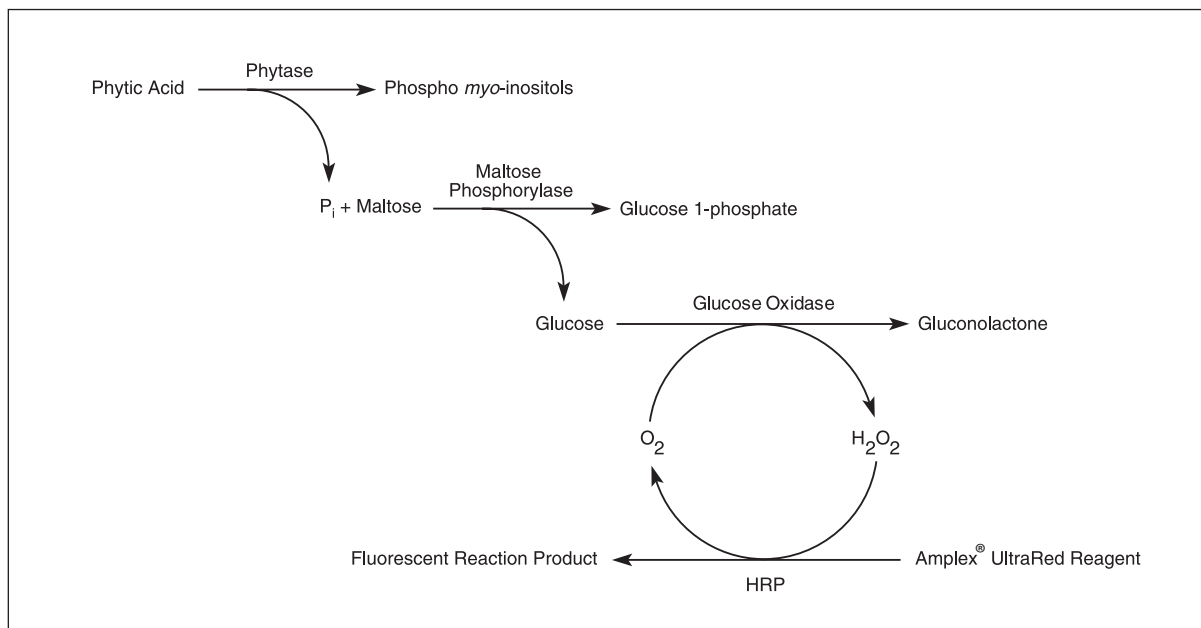
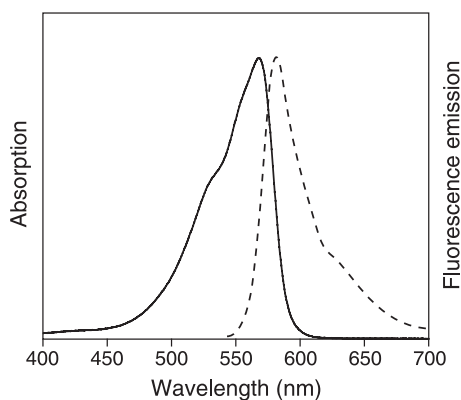

Figure 1. Principle of EnzChek® phytase assay.
Figure 2. Normalized absorption and fluorescence emission spectra for the Amplex® UltraRed peroxidation product.
The EnzChek® Ultra Phytase Assay Kit utilizes a series of linked enzymatic reactions for the detection of phytase activity (Figure 1). In the initial step, phytase catalyzes the release of inorganic phosphate from phytic acid; in the presence of P_i , maltose phosphorylase converts maltose to glucose 1-phosphate and glucose. Glucose oxidase then converts the glucose to gluconolactone and H_2O_2 . Finally, with horseradish peroxidase (HRP) as a catalyst, the H_2O_2 reacts with the Amplex® UltraRed reagent to generate a fluorescent product, which has absorption and fluorescent emission maxima of ~568 nm and 581 nm, respectively (Figure 2). The resulting increase in fluorescence is proportional to the amount of P_i in the sample. This relative measure of phytase activity can be used as the basis of a standard curve of phytase enzyme standards with known activity.
2.8 Measure sample fluorescence with a fluorescence microplate reader set for excitation in the range of 530–560 nm and emission detection at 580–590 nm (Figure 2).